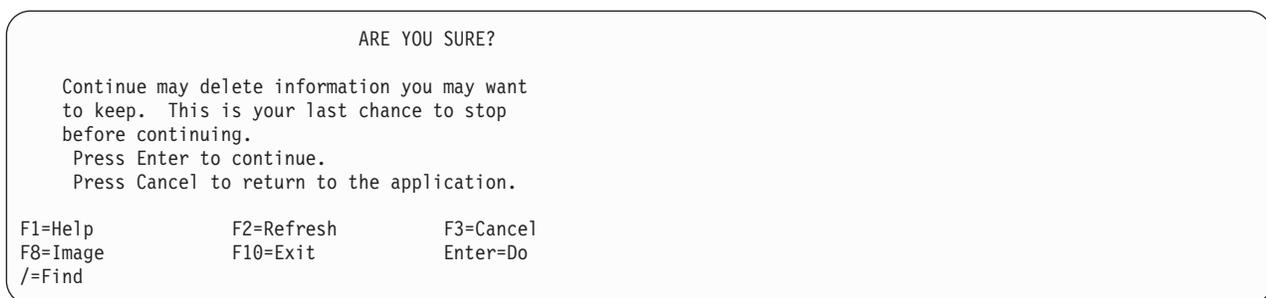

Figure 28. Warning Message for Processing AOTM To a Remote Cluster
7. Press **Enter**. You see Figure 28.